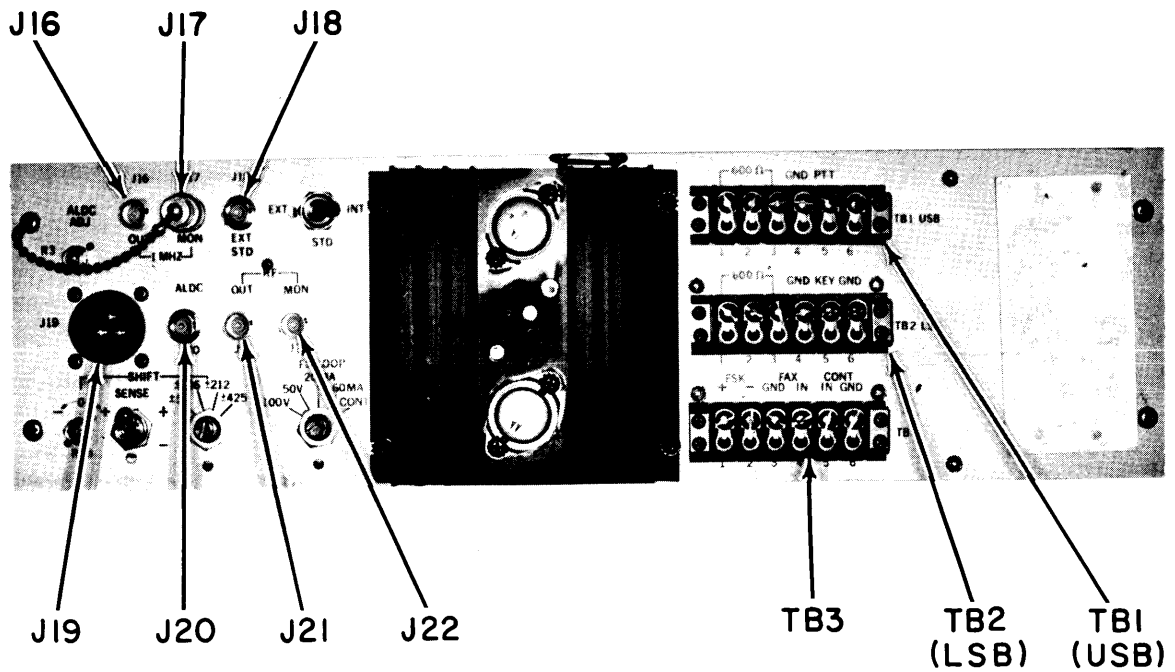
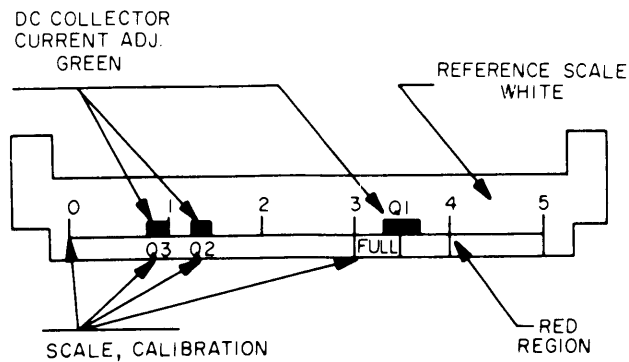

Figure 2-2. Rear Panel Connections
Figure 2-3. Front Panel Monitor Indicator
All electrical connections between the Exciter and associated equipment are made at the rear of the unit. Figure 2-2 illustrates all rear panel connections, and table 2-2 lists the panel designation and function of each connection.
2-6. INITIAL CHECKOUT PROCEDURE. (See figures 2-2 and 2-3.)
- a. Set ON/STANDBY switch (9) to STANDBY.
- b. Connect source of 115 vac line power to connector J19 (figure 2-2). STANDBY indicator (8) shall illuminate amber. Allow 15 minutes for warmup.
- c. Position RF OUTPUT control (1) fully counterclockwise.
- d. Using frequency selector switches (14), set output frequency to 29.9999 mhz.
- e. Position CARRIER control (7) fully counterclockwise.
- f. Set MODE switch (13) to ISB.
- g. Set EXCITER switch (12) to ON.
- h. Set LSB MIC/LINE control (4) and USB MIC/LINE control (6) to 0.
- i. Set METER switch (2) to Q1.
- k. Set ON/STANDBY switch (9) to ON. STANDBY indicator (8) shall extinguish and POWER indicator (10) shall illuminate red.
- l. Verify that MONITOR meter (5) is in the green region marked Q1. (See figure 2-3.)
- m. Set METER switch (2) to Q2. MONITOR meter (5) shall indicate in the green region marked Q2. (See figure 2-3.)
- n. Set METER switch (2) to Q3. MONITOR meter (5) shall indicate in the green region marked Q3. (See figure 2-3.)
- o. Set METER switch (2) to RF. MONITOR meter (5) shall indicate zero.
- q. Adjust RF OUTPUT control (1) for a minimum indication of 3.5 volts on VTVM.
- r. Set METER switch (2) to USB and adjust USB MIC/LINE control (6) for an indication of 2/5 full scale on MONITOR meter (5).
- s. Set METER switch (2) to LSB and adjust LSB MIC/LINE control (4) for an indication of 2/5 full scale on MONITOR meter (5).
- t. Set METER switch (2) to CAR. MONITOR meter (5) shall indicate zero.
- u. Rotate CARRIER control (7) slowly clockwise. MONITOR meter (5) indication shall increase to FULL when CARRIER control (7) is fully clockwise.
- a. Connect a source of 115 vac, single-phase power to connector J19 (figure 2-2).
- b. Make the necessary interface connection on rear panel jack (figure 2-2).